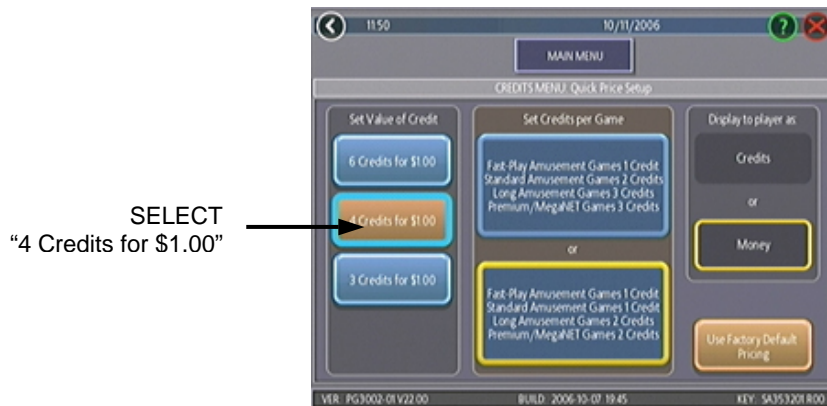

FIGURE 1 – QUICK PRICE SETUP
- 4) Touch **4 Credits for \$1.00** (see Figure 1).